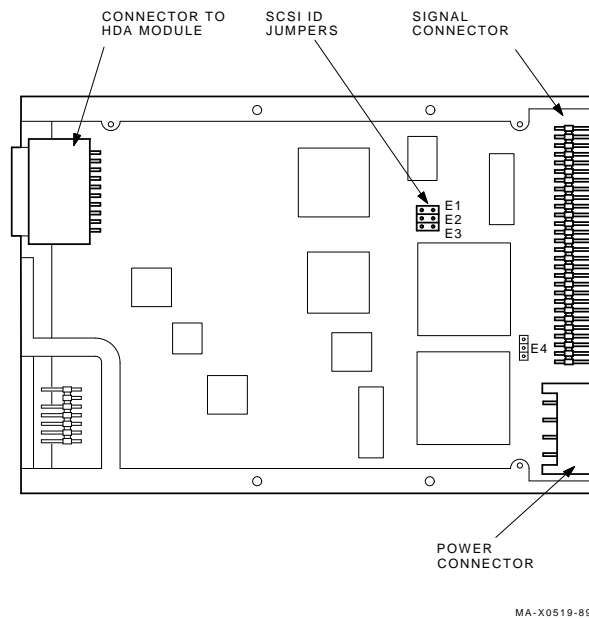

Figure 3-14 RZ23 SCSI Address ID Jumper Locations
1. The SCSI ID is set according to the RZ23's mounting position on the upper drive panel. Set the SCSI ID on the RZ23 drive according to the address ID for the drive locations (Figure 3-15). Refer to Figure 3-14 and Table 3-1 to set the jumpers on the RZ23 to the correct SCSI ID address.